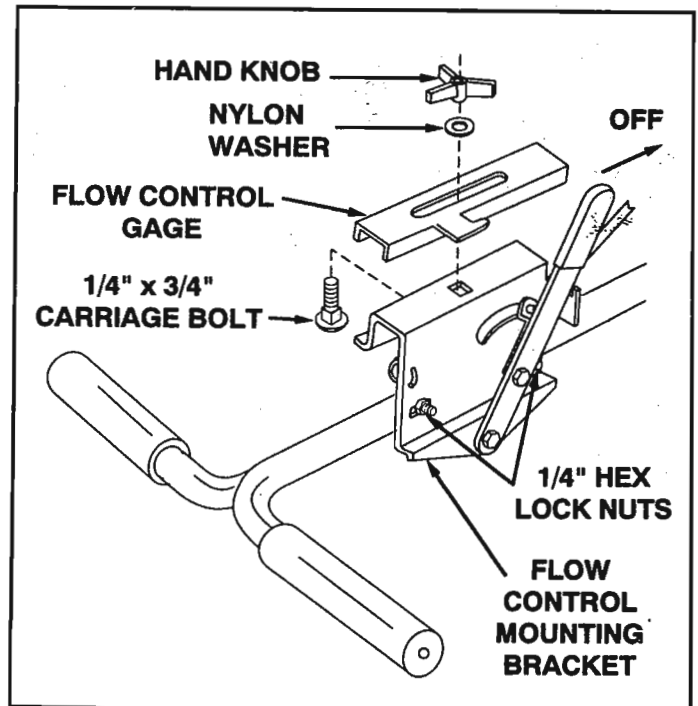

FIGURE 15
- Assemble the flow control gage onto the flow control mounting bracket using a 1/4" x 3/4" carriage bolt, a nylon washer and hand knob. See figure 15.
- Move flow control arm to off position and push flow control mounting bracket toward hopper until closure plate (located in bottom of hopper) is completely closed. Tighten 1/4" hex lock nuts assembled in step 21. See figure 15.